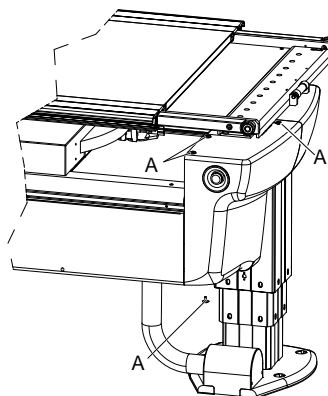

Fig. 4-150 *Removing left back cover*
- b. Remove the left back cover by removing the bolts (A) shown in Fig. 4-150 *Removing left back cover*. Observe the placement of the cable chain before removing the cover.
- d. Tighten the bolts (B), use Loctite 243, see Fig. 4-150 *Removing left back cover*.